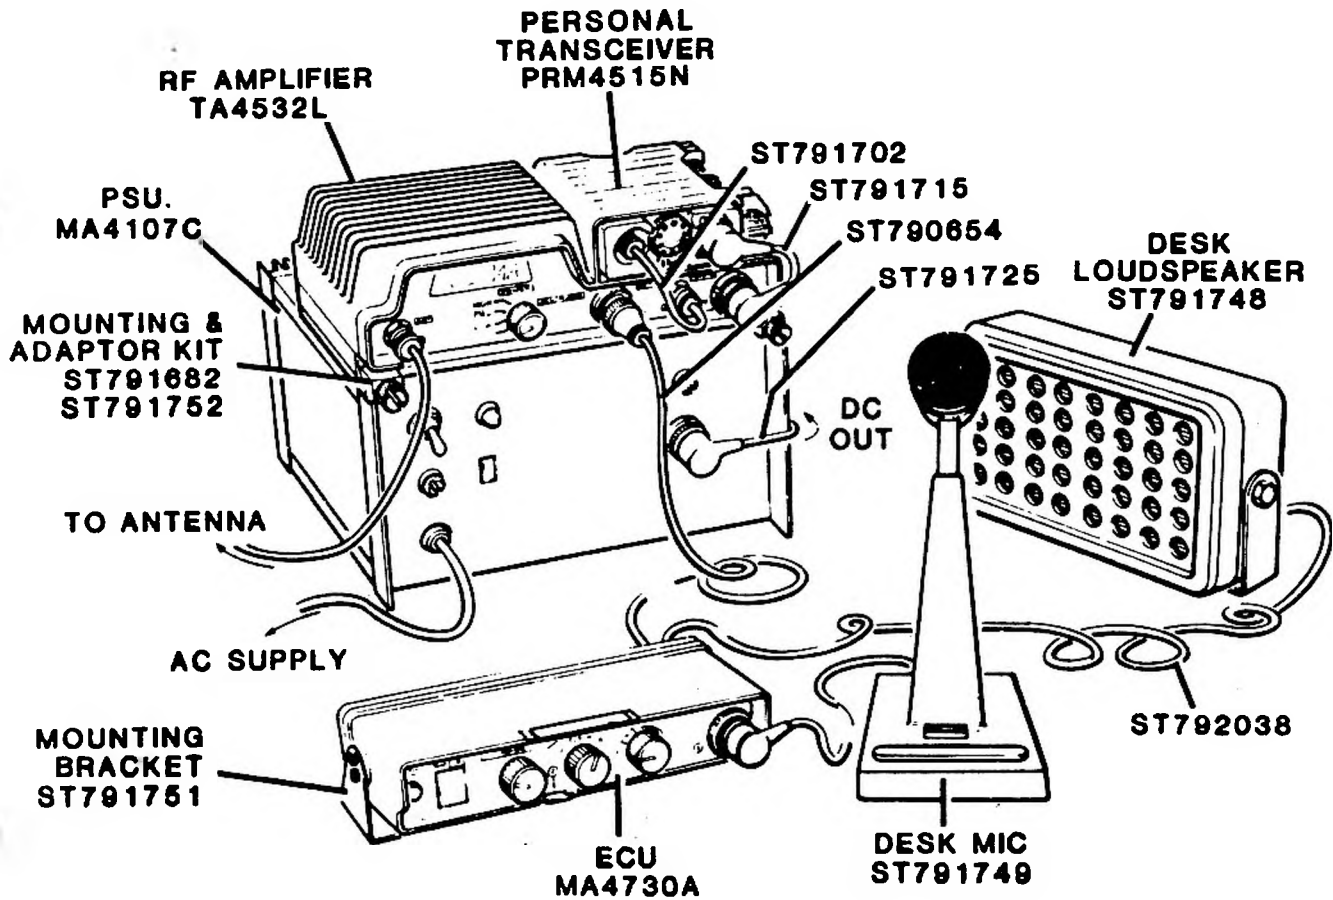

Fig 6 Type 3 base station
3.6 Type 3 Base station (Fig 6). Similar to Type 1 but with full control facilities at up to 30 metres distance.